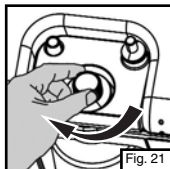

Fig. 21
- Turn off control knob (Fig. 21).